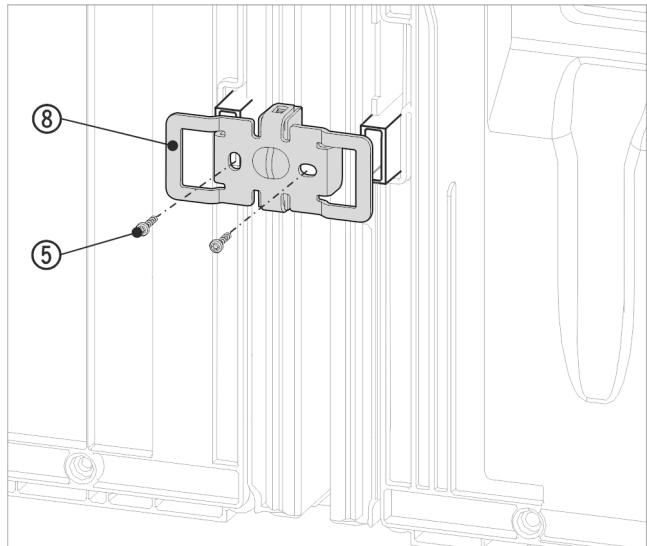

Fig. 18 Example illustration
- ▶ Slide the bracket Fig. 18 (8) on once more with the slots over the retainer for the wall spacers.
- ▶ Screw in tightly with the 2 screws Fig. 18 (5).